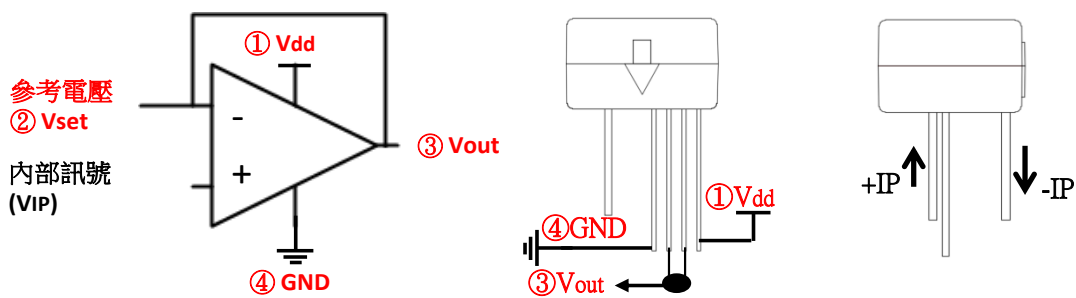

Fig. 1
2. **Measure the Overcurrent Value** : V_{set} pin and V_{out} pin are short-circuited, and output pin does not need to be connected to any load which is as shown in Fig.1. Users can set the IP overcurrent value by putting the target current which is flowing through this hole. Then, measure the output voltage (V_{out}) directly by a multimeter under DC mode and records this voltage.
1.1 Measure the Zero Current Value V_{0A} : V_{set} pin and V_{out} pin are short-circuited, and output pin does not need to be connected to any load which is as shown in Fig.1. The output voltage (V_{out}) is directly measured by a multimeter under DC mode.